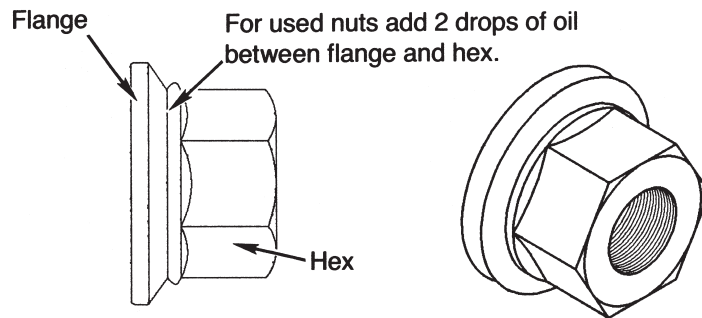

Figure 13
- ◆ Before reusing flange nuts that have already been used in service, apply 2 drops of 30 weight oil at one point between the flange and the hex. This will allow the parts to rotate freely and provide the proper clamping force when tightened. (See Figure 13.) Excessive lubricant is not desirable. It will not improve nut performance. And it makes the nuts hard to handle, attracts dirt to the nuts, and may cause unsightly appearance to the wheel. Only **used** nuts need to be lubricated.